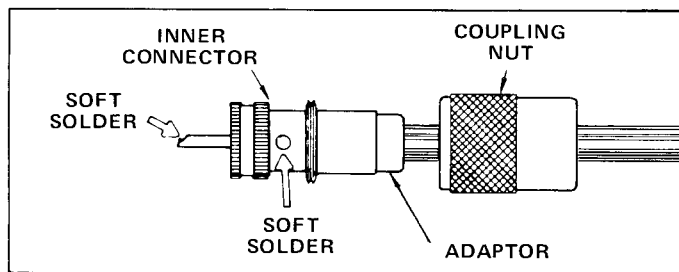

FIGURE 3
STEP 3. Screw UHF inner connector firmly onto adaptor. Soft solder connector to adaptor and to inner conductor as shown in Figure 3. Clean connection. Screw coupling nut onto inner connector until nut spins freely.